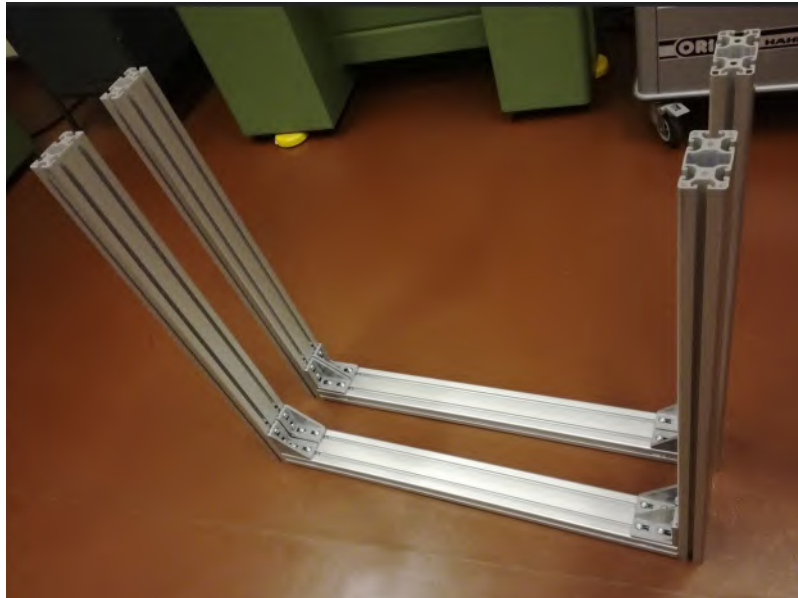

Figure 6: Assembly after completing step 1
- 1.5. Screw remaining frames to the angles (Figure 6).